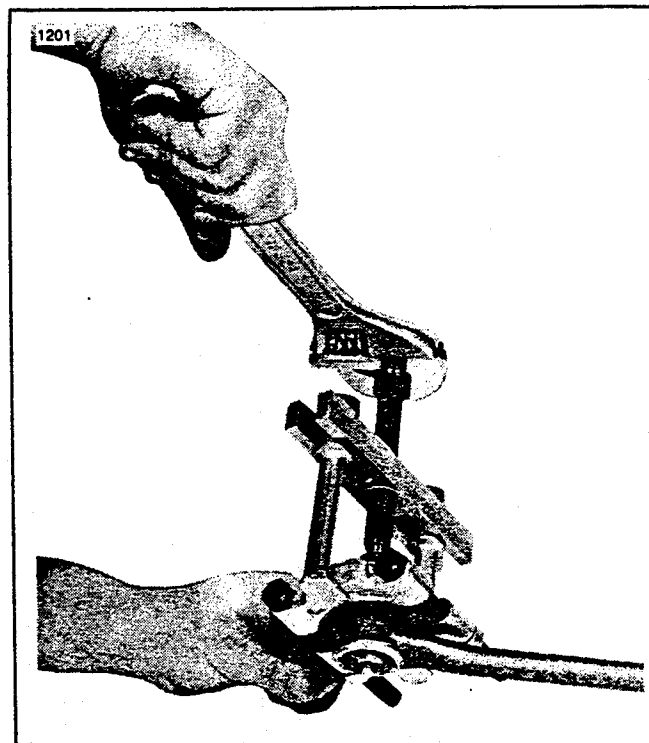

Figure 2-23. Pulling Tie Rod
3. See Figure 2-23. Use CLAW PULLER, Part No. 97292-61, and WEDGE ATTACHMENT, Part No. 95637-46 to pull pitman arm from tie rod.